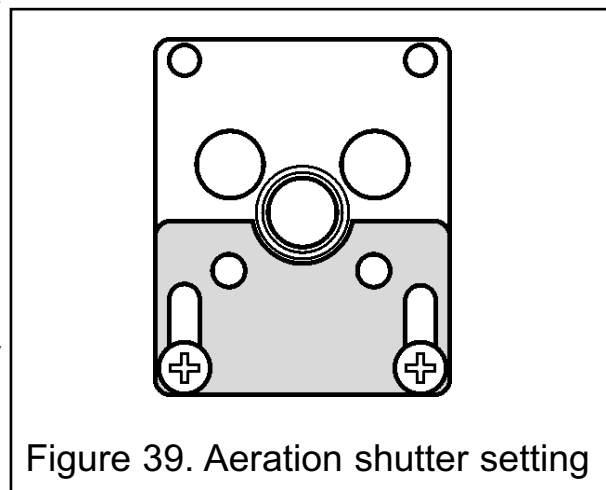

Figure 39. Aeration shutter setting
1. The aeration shutter is factory set. It is important to ensure that the aeration setting is correct (See figure 39).